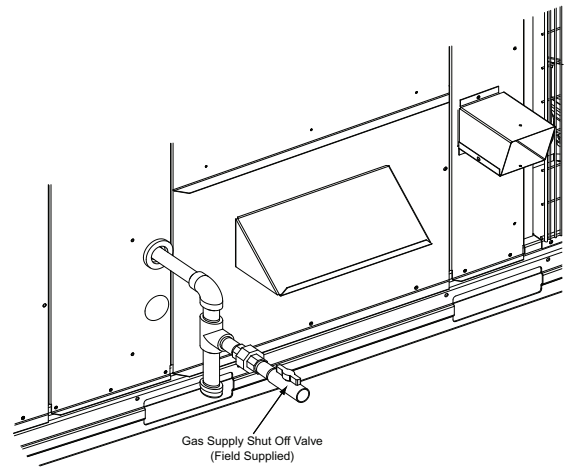

Fig. 2 - Gas Supply Shut-Off Valve Location
Should the gas supply fail to shut off or if overheating occurs, shut off the gas valve to the furnace (see Figs. 2 and 3) before shutting off the electrical supply.
Step 2 — Turn off the gas supply by closing the gas supply shut-off valve (external to RTU unit). See Fig. 2 for location.